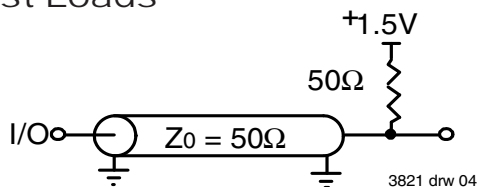

Figure 1. AC Test Load
AC Test Load	See Figures 1
- These parameters are guaranteed with the AC load (Figure 1) by device characterization. They are not production tested.